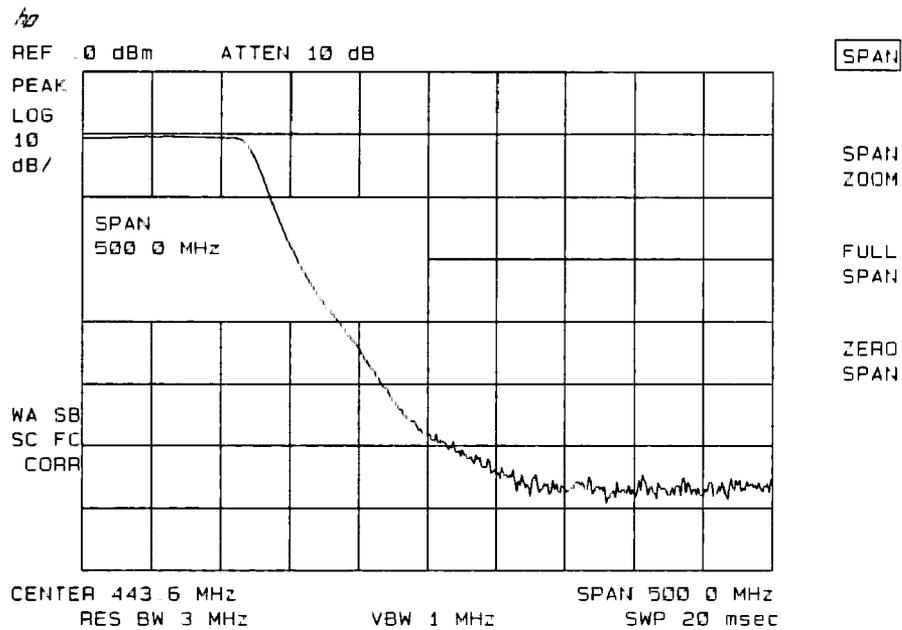

Figure 6-37. Spectrum Analyzer Settings According to the Measurement Requirement
5. Since we are only interested in the rejection of the low-pass filter, tune the spectrum analyzer's center frequency and span so that the rolloff of the filter comprises the majority of the trace on the display (see Figure 6-37).